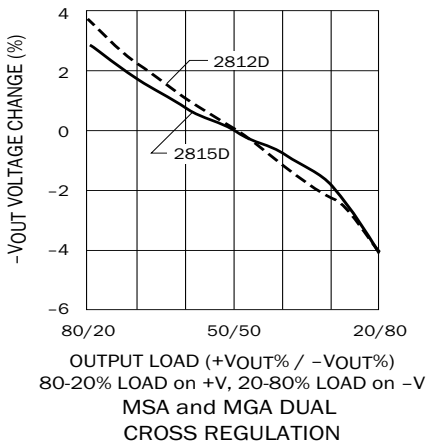

FIGURE 22
| CROSS REGULATION ^{1, 3} EFFECT ON -V _{OU} | FIGURE 22 ON PAGE 12 (20 TO 80%) | — | 10 | — | — | 4 | — | — | 3 | — | % |
- Shows regulation effect on the minus output during defined cross loading conditions. See Figure 22 and Figure 23 on page 12.